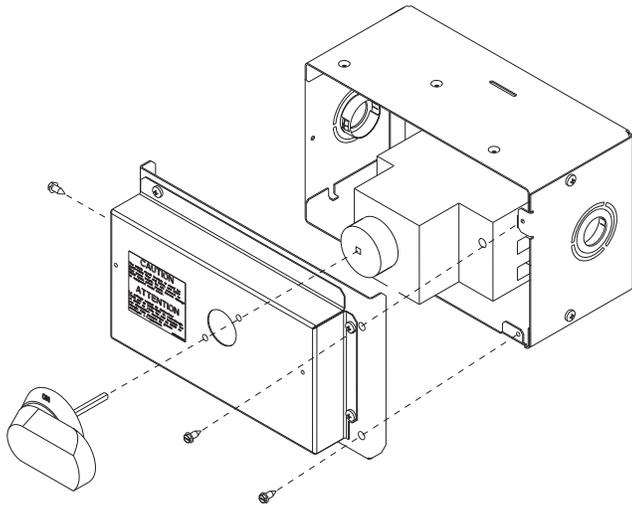

Fig. 29 — HACR Handle and Shaft Assembly
5. Insert the shaft all the way with the cross pin on the top of the shaft in the horizontal position. See Fig. 29.
9. Secure the handle to the painted cover with (2) screws and lock washers supplied.
10. Engaging the shaft into the handle socket, re-install (3) hex screws on the HACR enclosure.